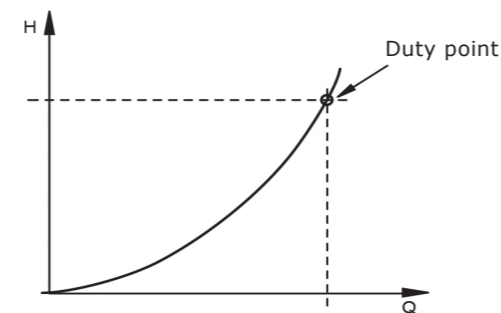

Fig.1 System characteristic
Put the required maximum flow (Q) on the X axis, maximum pressure losses (H) — on the Y axis. See Fig. 1.